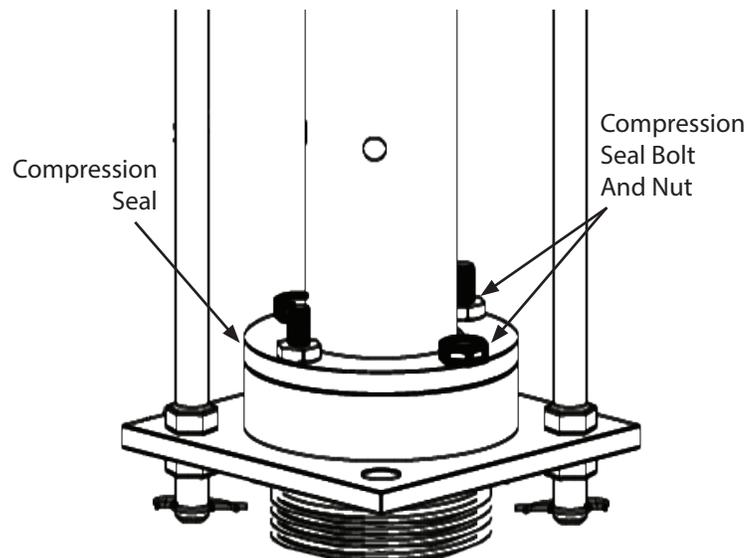

Figure 15: Compression Seal Bolts
2. Tighten the compression seal bolts and nuts just enough to stop any leaking from the seal. See Figure 15.